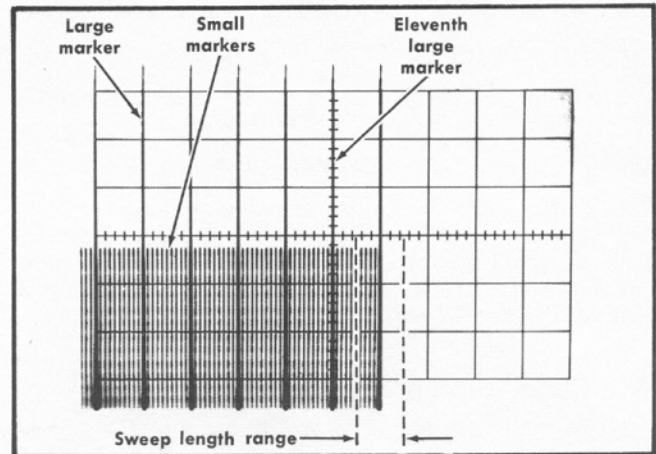

Fig. 6-49. Typical CRT display when checking A and B sweep length.
- d. Move the eleventh large marker to the center vertical line with the horizontal POSITION control (see Fig. 6-49).
- e. CHECK—B Sweep length must be between 10.5 and 11.5 divisions as shown by 0.5 to 1.5 divisions of display to the right of the center vertical line (see Fig. 6-49). Large markers indicate divisions and small markers indicate 0.1 division.
- d. Move the eleventh marker to the center vertical line with the horizontal POSITION control (see Fig. 6-49).
- e. CHECK—A Sweep length must be between 10.5 and 11.5 divisions as shown by 0.5 to 1.5 divisions of display to the right of the center vertical line (see Fig. 6-49).